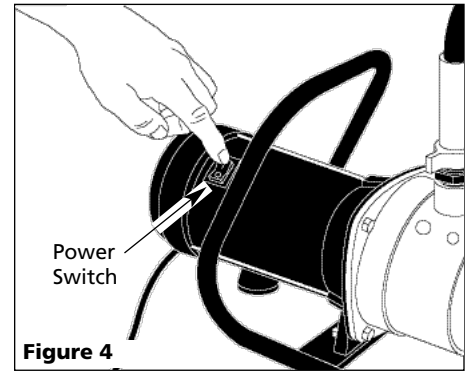

Figure 4
4. Turn pump switch to the 'On' position (see Figure 4). If the pump does not pump water within 10 minutes, turn off pump and refill with clean water. If the pump does not operate after repeated attempts, check the following: